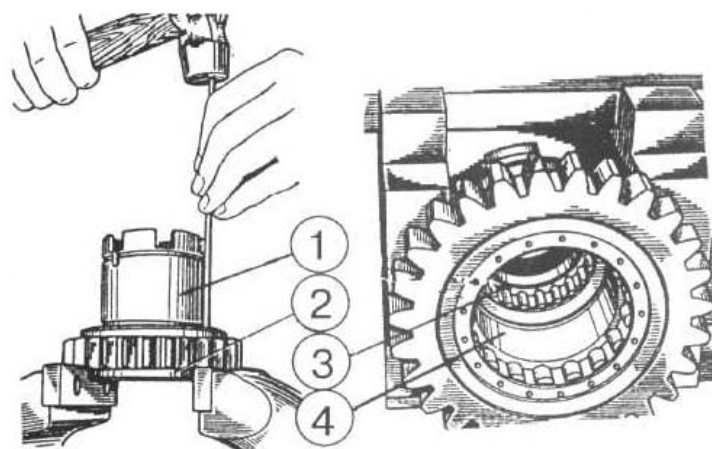

Figure 4.91
d) through opening in gear 1 (Figure 4.91) press external shell of bearing 2 off gear boring, extract bushing 4 and bearing 3;